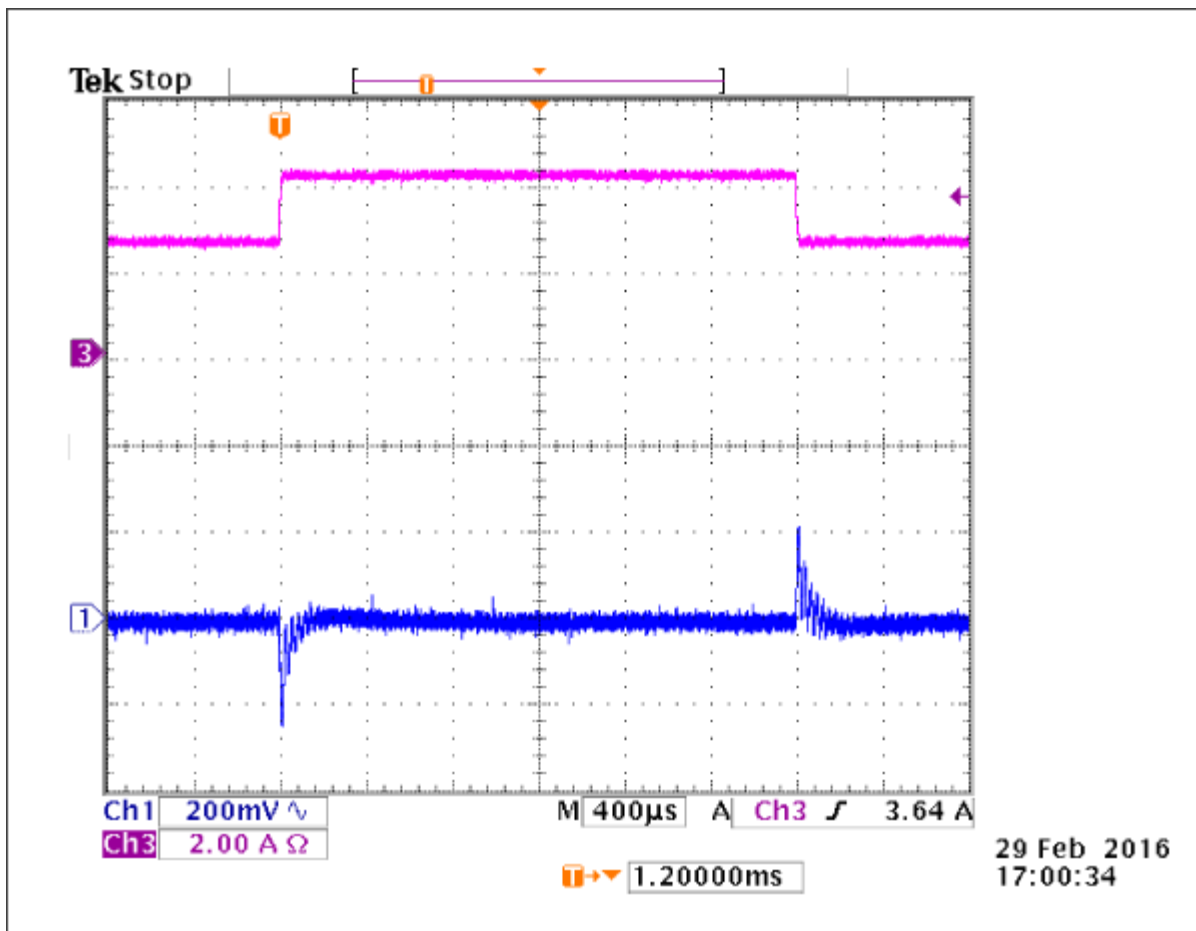

Figure 5. Transient response when load steps from 2.4A to 4A, at 5VOUT.
**Figure 5** shows the load transient response when the load is stepped from 2.4A to 4A, and then dropped back to 2.4A again. The input is 24V.